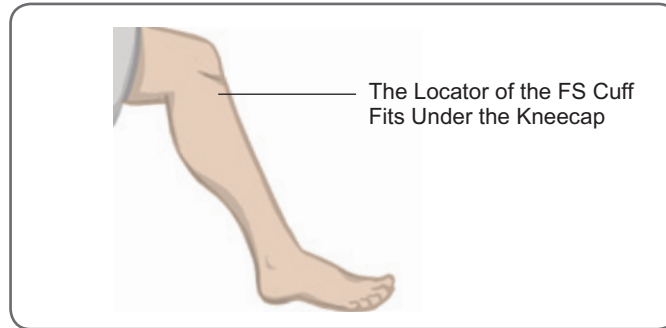

Figure 6-11: Recommended Knee Angle for Positioning the Lower Leg FS Cuff
1. While seated, slightly straighten your leg as shown in Figure 6-11. The outline of your kneecap should be clearly defined. (Place your foot on a footrest, if necessary.)